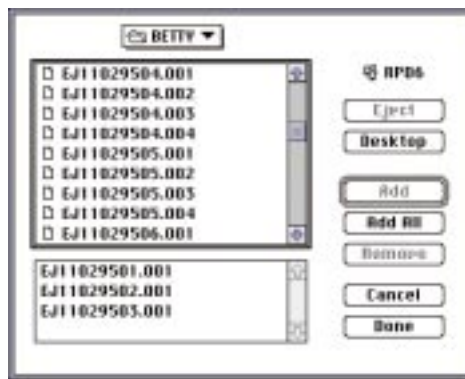

Figure 6 Patient files window showing selected LeucoGATE data files.
6. Select ONLY those files that correspond to the LeucoGATE™ sample for each patient (LeucoGATE is always the first tube in the panel and has a file name suffix .001. For example, Patient01.001, Patient02.001, Patient03.001, etc. See Figure 6). Click Add after selecting each LeucoGATE file. Repeat until all patients are selected, then click Done.